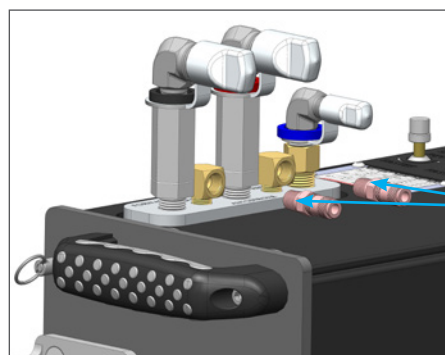

FIGURE 5
4. Install the two Quick Disconnect Fittings to the brass elbows using pipe dope or tape on the tapered threads. **(FIGURE 5)**